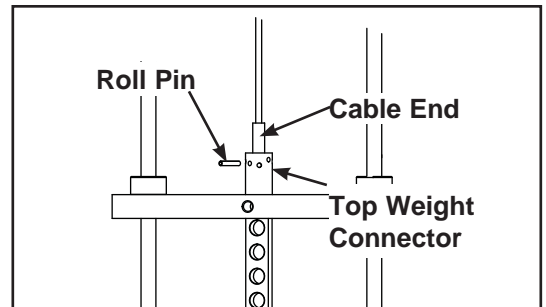

Figure 8
3. **Roll Pin Adjustment** - This type of adjustment utilizes a roll pin and series of holes in the weight stack top weight connector. See Figure 8.